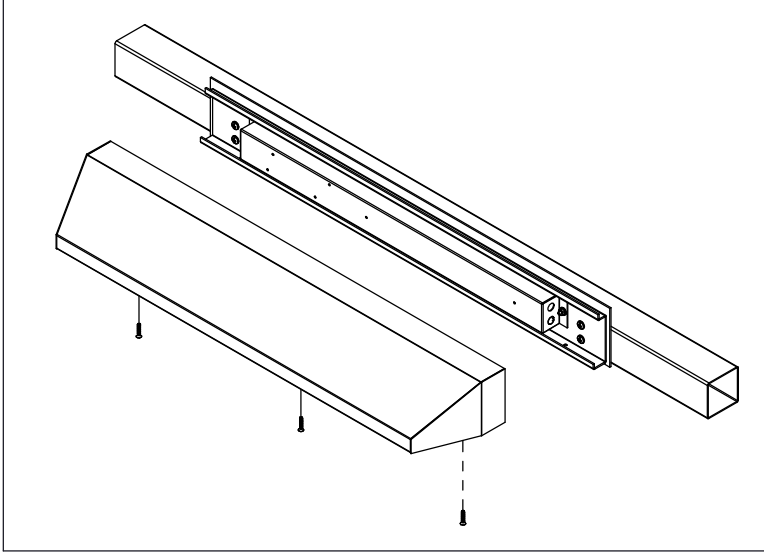

Figure 5
5. Reattach Housing to Mounting Plate with housing screws (Fig. 5).